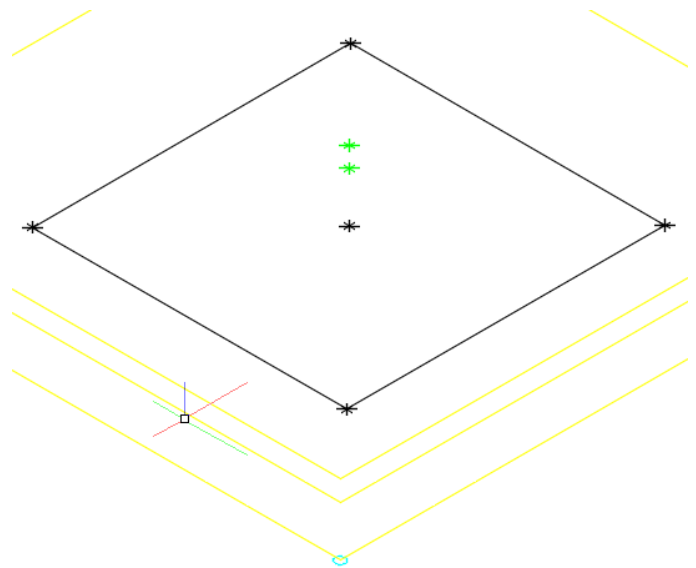

Figure 15
28. Repeat the Process for the Connection Work Plane the result should look like Figure 15